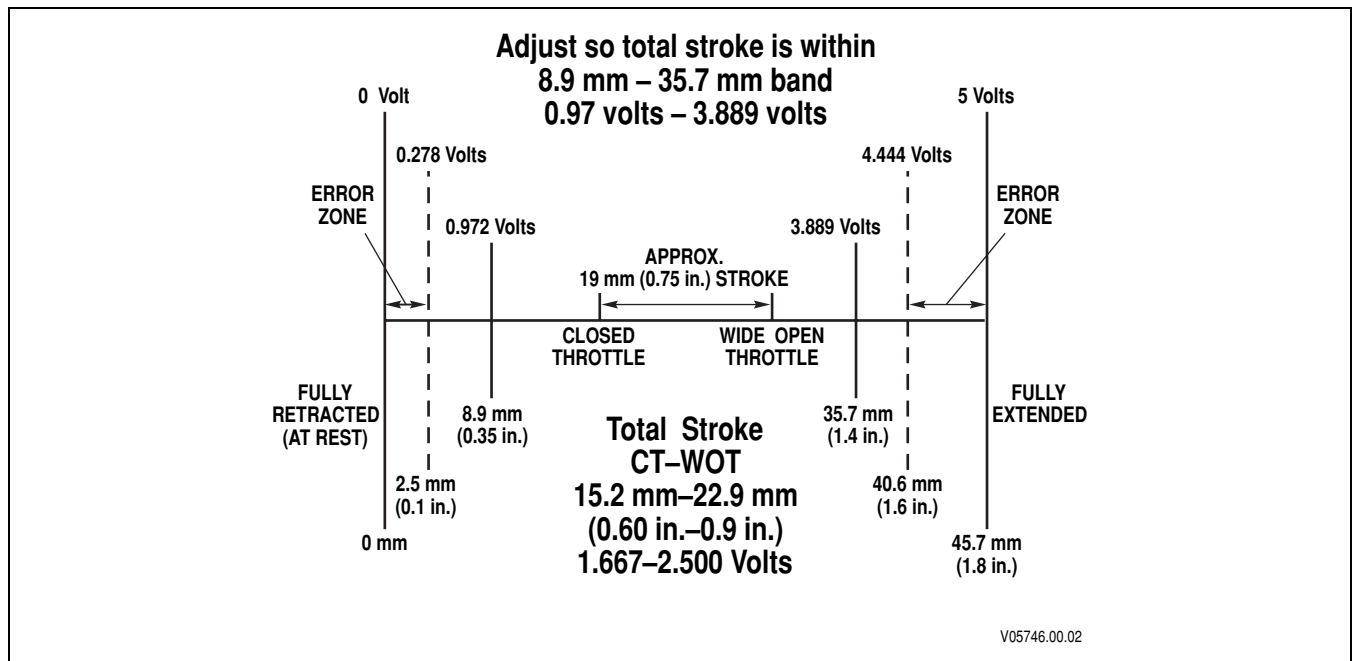

Figure F-2. Throttle Position Determination Diagram
2. Each position gives a different voltage. The TCM then converts this voltage into percent. Each millimeter of travel converts to approximately 0.110 volts. Figure F-2 diagrams the voltage and throttle movement relationship.